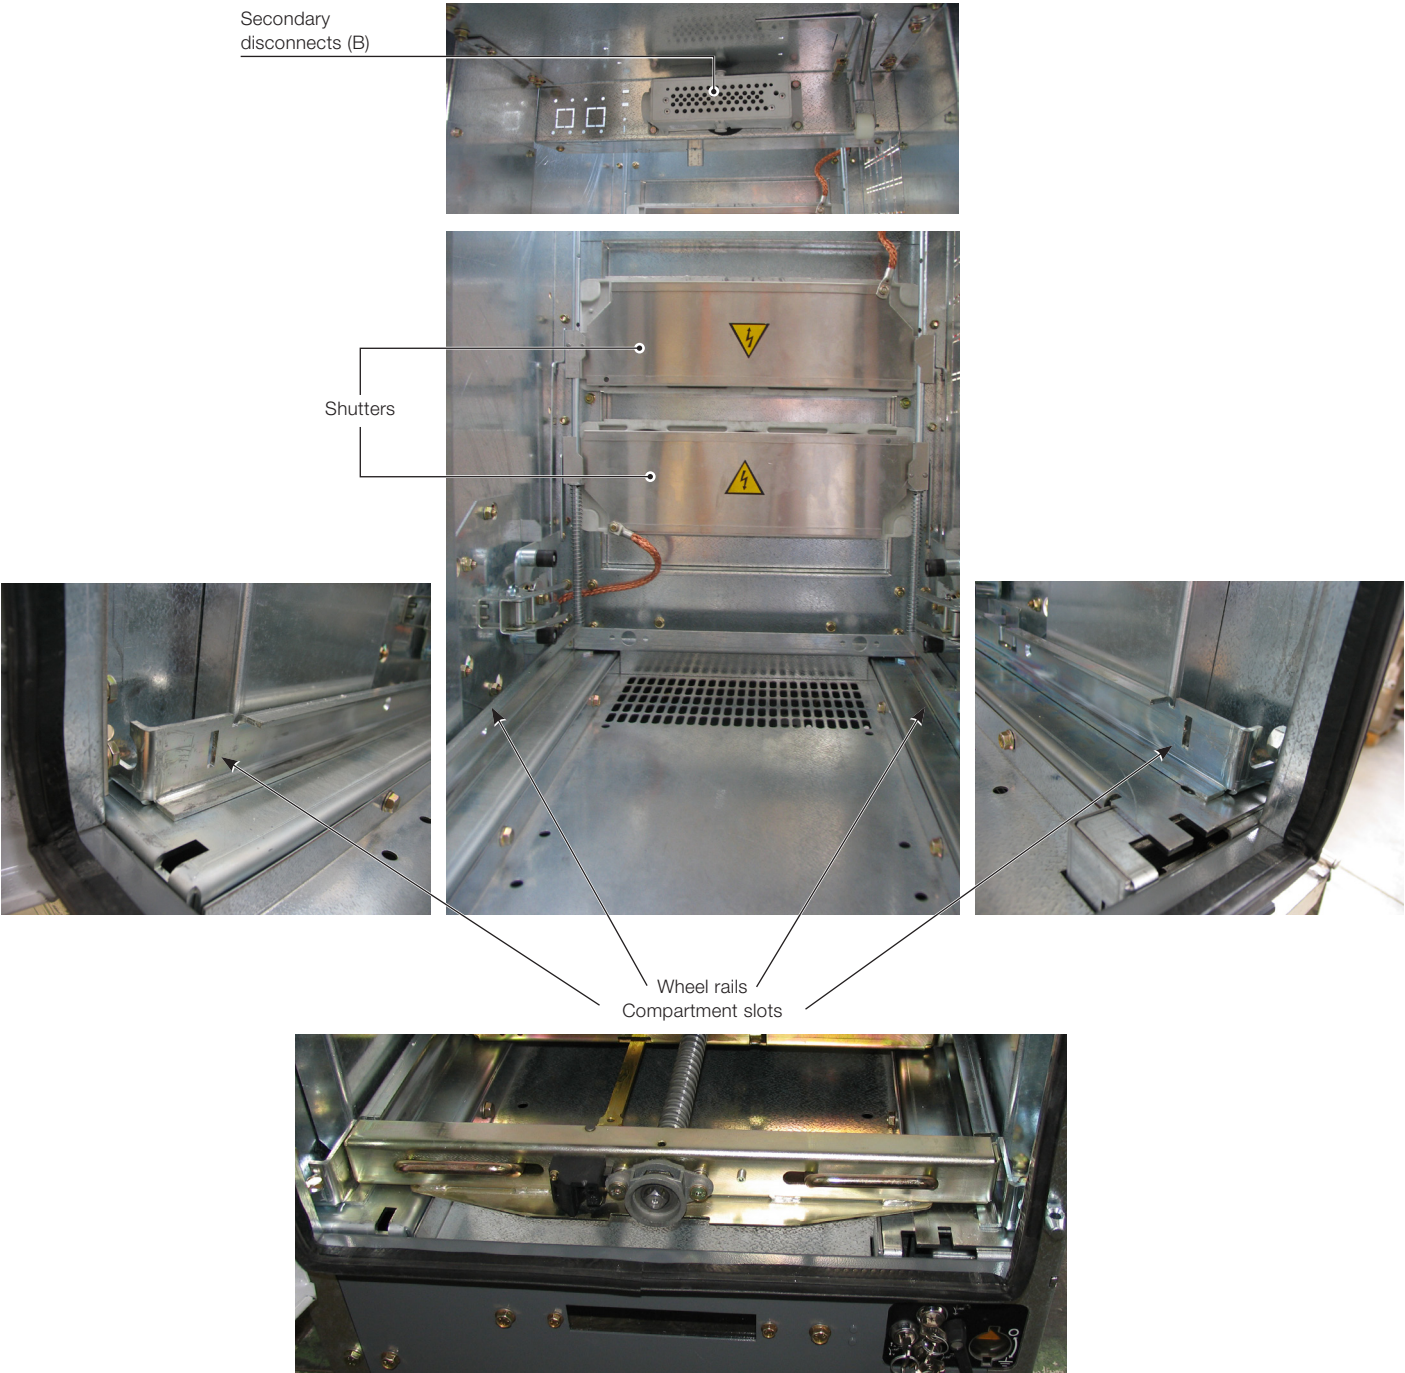
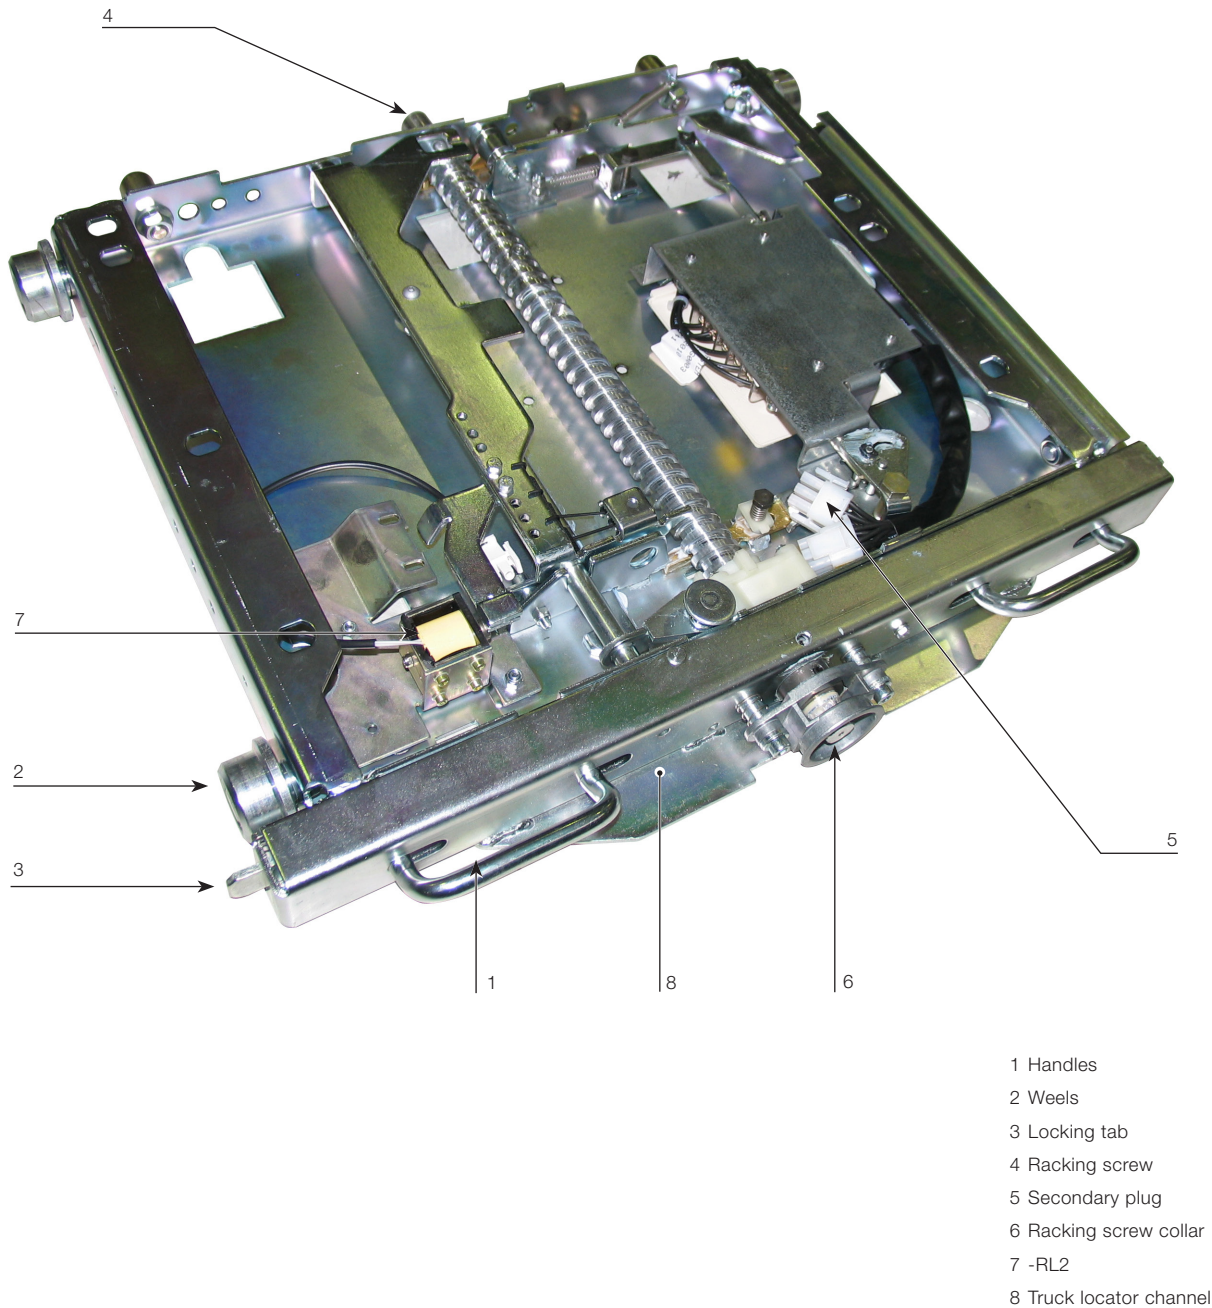

Fig. 4
Fig. 5
1. Align the circuit-breaker and ramp, dolly or lift truck with the compartment (Fig. 4).
2. Pull the handles (1 - Fig. 5) to center (this withdraws Cell Interlock Tabs (3 - Fig. 5) allowing the circuit-breaker to be inserted).
4. Align the circuit-breaker interlock tabs (3 - Fig. 5) with the compartment slots (Fig. 4).
1. Visually verify that the truck (9 - Fig. 10a) is against the truck locator channel (8 - Fig. 5).
2. Pull the handles to the center (1 - Fig. 5).
- the switchgear is provided with devices which only allow connection and disconnection of the plug connector (Secondary disconnects Fig. 4) (Fig. 7) in the test/ isolation position.